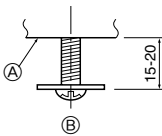
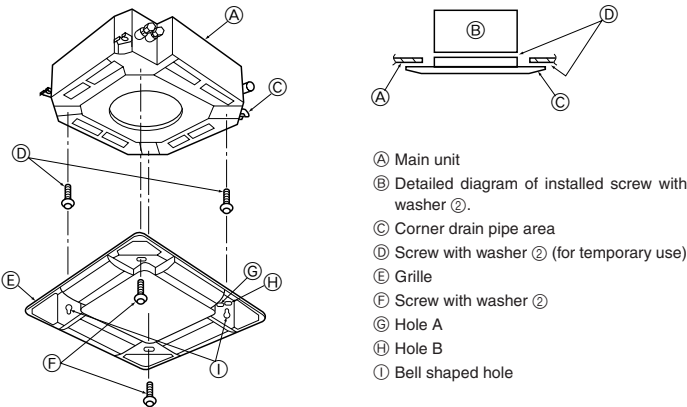

Fig. 10-5
Fig. 10-6
10.4.1. Preparations (Fig. 10-5)
- Install the two enclosed screws with washer ② in the main unit (at the corner drain pipe area and at the opposite corner) as shown in the diagram.
10.4.2. Temporary installation of the grille (Fig. 10-6)